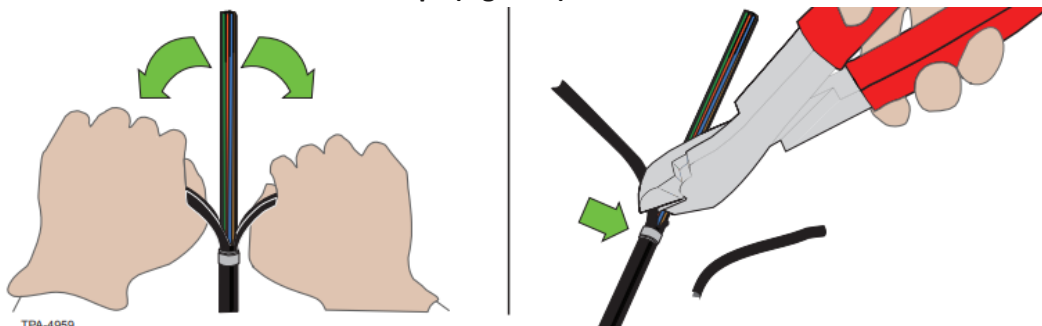

Figure 5
**Step 3:** Continue to remove the jacket by pulling both sides down to the tape mark and remove the jacket with side-cutters or small snips (Figure 5).